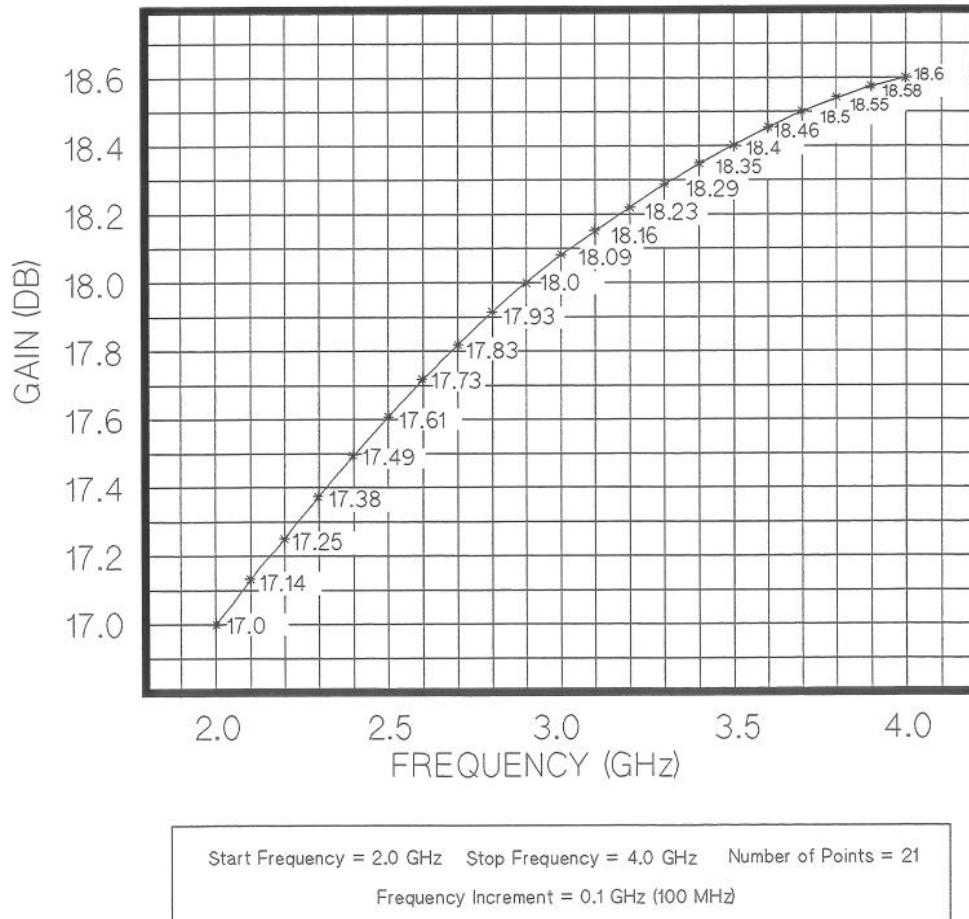

Figure 3-4. Typical Standard Gain Antenna Performance Graph
Next, you must determine the gain values at each frequency increment. Figure 3-4 shows a typical graph-style data sheet for a standard gain antenna.
1. Choose the start and stop frequencies. Examples shown in Figure 3-4 are 2 and 4 GHz, respectively.
3. On the graph for *your* standard antenna, determine the gain at each frequency increment. Figure 3-4 shows example gain values for 21 frequencies spaced 100 MHz apart.
The ASCII file must follow the CITIfile format supported by the HP 8530A. Figure 3-5 shows an example file for the data in Figure 3-4. At first the file looks complicated. However only the items pointed out in Figure 3-5 are variable. To save time, start by editing an existing calibration definition file. One is supplied on the Antenna RCS/Cal Disc, which was supplied with the receiver. The file name of the file is AC_NAR1.